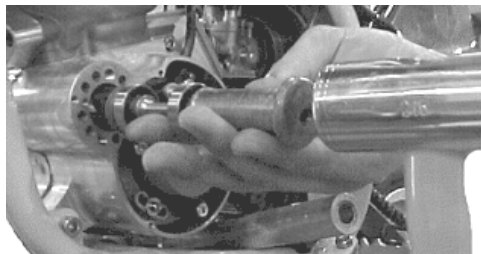

Figure 32
12. Using a liberal amount of grease on the outside seal, bearings and inside of case, reinstall bearing assembly by using a 0.500" ID by 1.000" OD steel tube 2" long and tap on end of tube per figure 32.